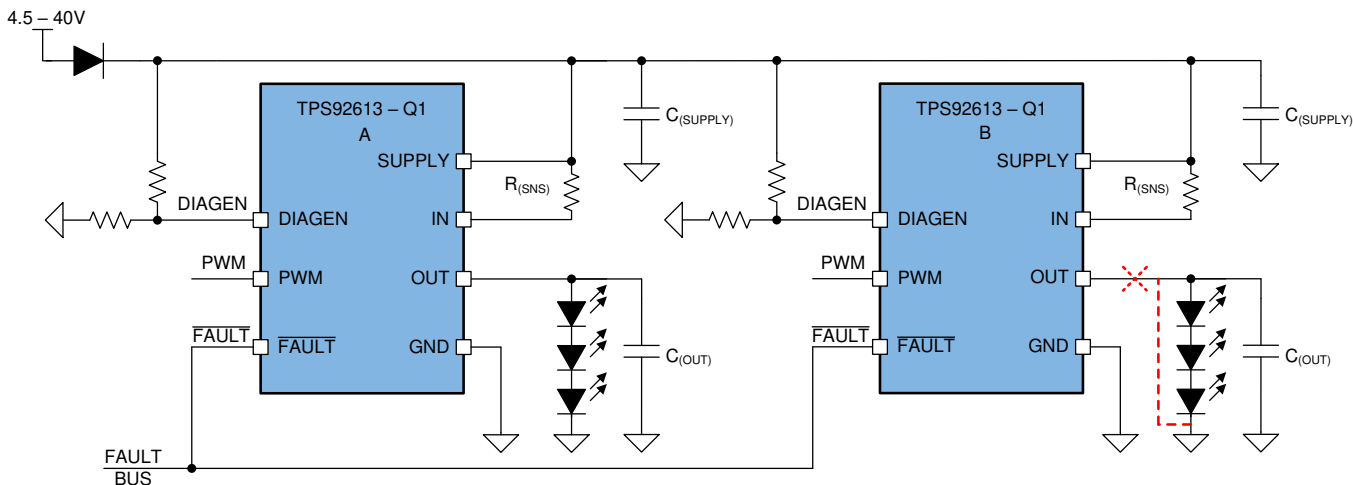

图 22. Typical Application Schematic for One-Fails-All-Fail
Based on this feature, the TPS92613-Q1 device is able to construct a FAULT bus by tying $\overline{\text{FAULT}}$ pins from multiple TPS9261x-Q1, TPS9263x-Q1 or TPS92830-Q1 devices to realize one-fails-all-fail function as Figure 22 showing. The right side TPS92613-Q1 (B) detects either LED open-circuit fault or LED short-to-GND fault and pulls low the FAULT pin. The low voltage on FAULT pin is detected by left side TPS92613-Q1 (A) because the FAULT pins are connected of two devices. The left TPS92613-Q1 (A) turns off the output current as a result.